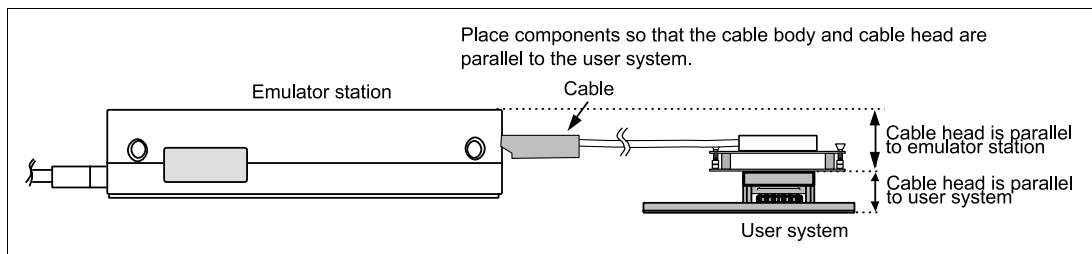

Figure 12 User System Interface Cable Location Example
5. While the emulator station is connected to the user system with the user system interface cable, force must not be applied to the cable head. Place the emulator station, user system interface cable, and user system as shown in the example in figure 12.